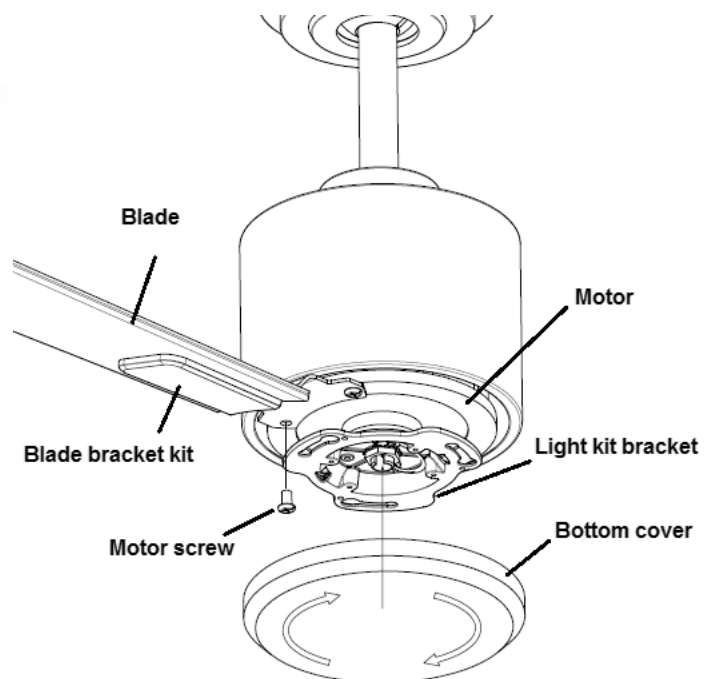

Fig. 9
- Attach the blade holder assembly to motor and secure it by tightening the 2 motor screws. Fig. 9